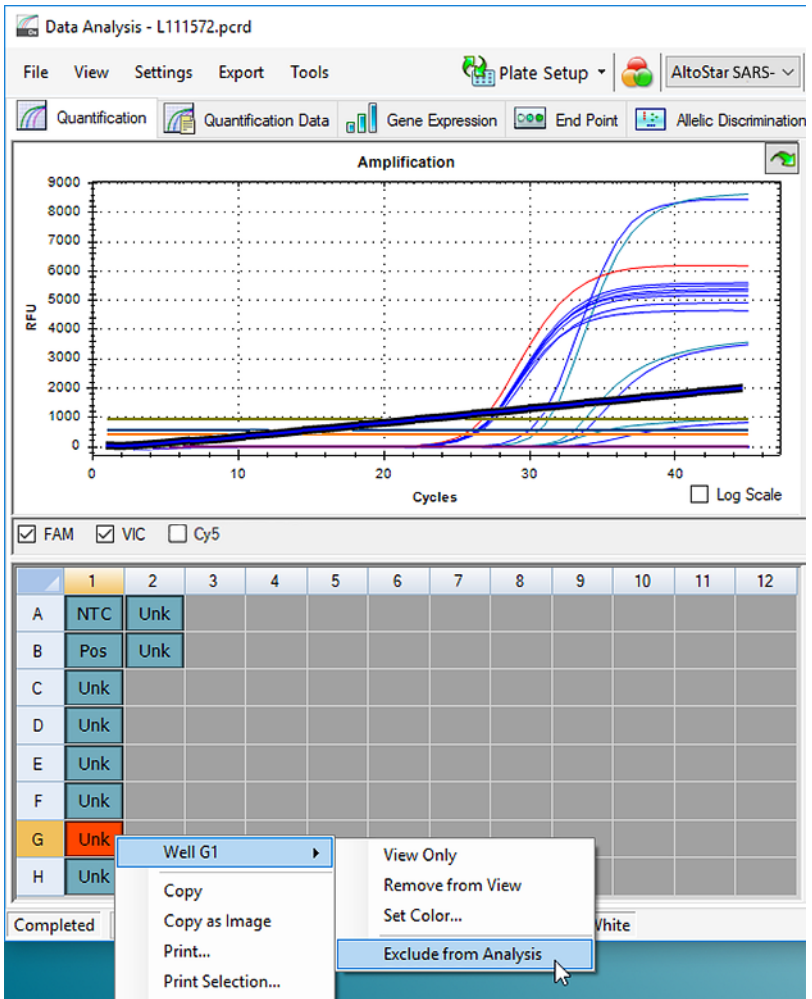

Figure 37: Data Analysis window: Exclude Well from Analysis
- Click each affected well with the right mouse button and select **Well...** → **Exclude from Analysis** (see Figure 37).